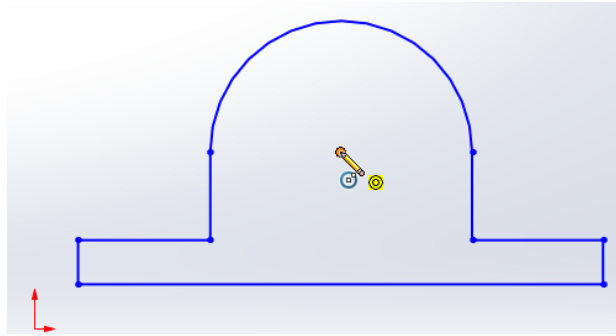

Figure 2-72 Drawing a circle at the center of outer arc
2. Move the circle cursor to the center of the outer arc; the center point is highlighted, refer to Figure 2-72.